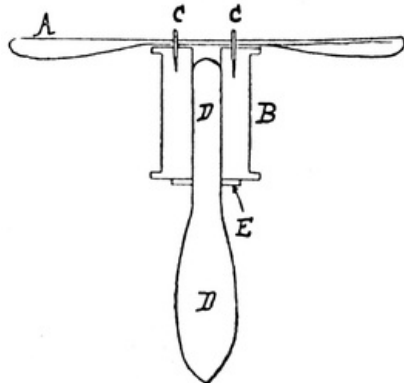

FIG. 475
**Gliders.** The earliest type of toy flying-machine consisted of a two-bladed tin propeller spun on a frame by unwinding string, as with a top, and suddenly let go. It is easily made, as shown in Fig. 475, where A is a tin propeller nailed by nails C and C to a large reel B. In making this toy the nails must be driven into the reel first, their heads are then cut off and they are tightly fitted into holes in propeller A. D is the axle on which the reel spins and the handle for holding it; E is a washer. This flying-machine is worked by smartly pulling a length of string wound around the reel.